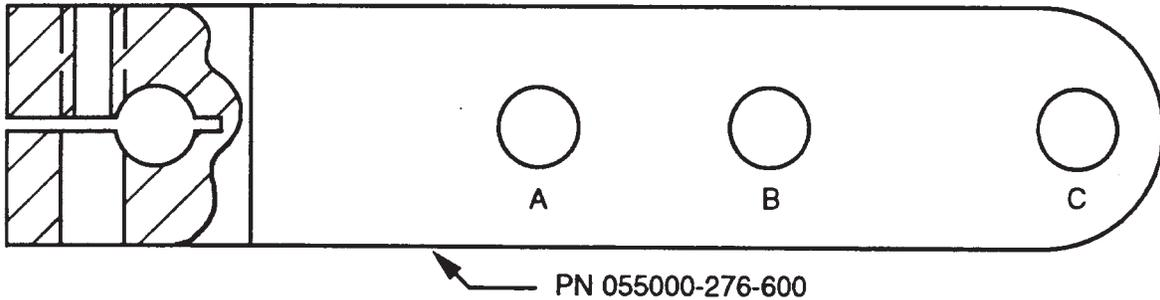

Figure 17. SVI Lever for 87/88 Multi-Spring Actuator
3. Attach the right hand threaded rod end to the SVI lever using a 1/4 - 20 x 1" cap screw. The lever hole position to be used is dependent upon the specific valve stroke. Refer to Figure 17 and Table 3 (shown below).